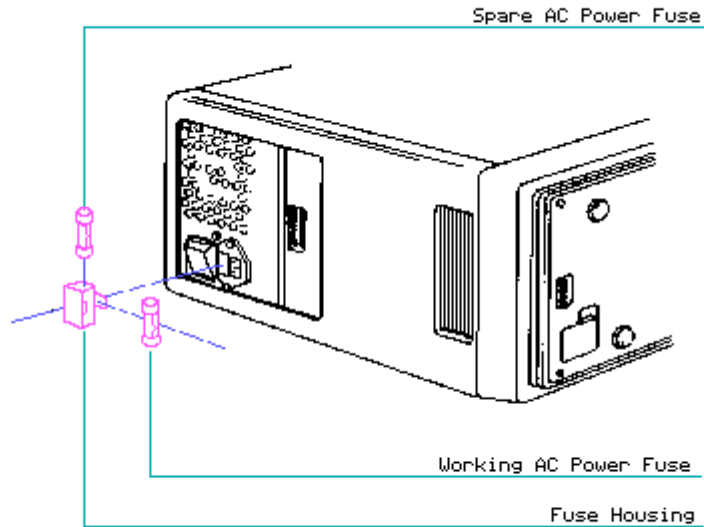

Figure 7-5. Replacing the AC Power Fuse
4. When the fuse box is removed, locate the spare fuse provided in the holding area in the fuse box (Figure 7-5). Lift the fuse out and replace it with the spare fuse.